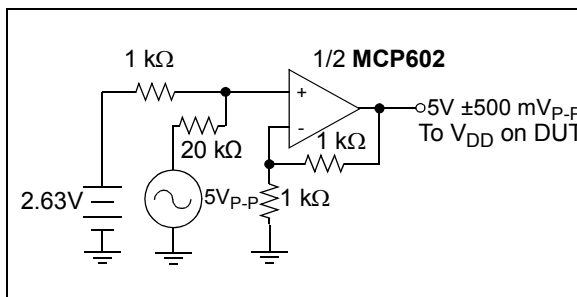

FIGURE 1-4: Power Supply Sensitivity Test Circuit (PSRR).
Note 4: $V_{DD} = 5V$ DC ± 500 mV_{P-P} @ 1 kHz, see test circuit Figure 1-4.
Note 4: $V_{DD} = 5V$ DC $\pm 500 \text{ mV}_{P-P}$ @ 1 kHz, see test circuit Figure 1-4.
- 4: $V_{DD} = 5V$ DC ± 500 mV_{P-P} @ 1 kHz, see test circuit Figure 1-4.